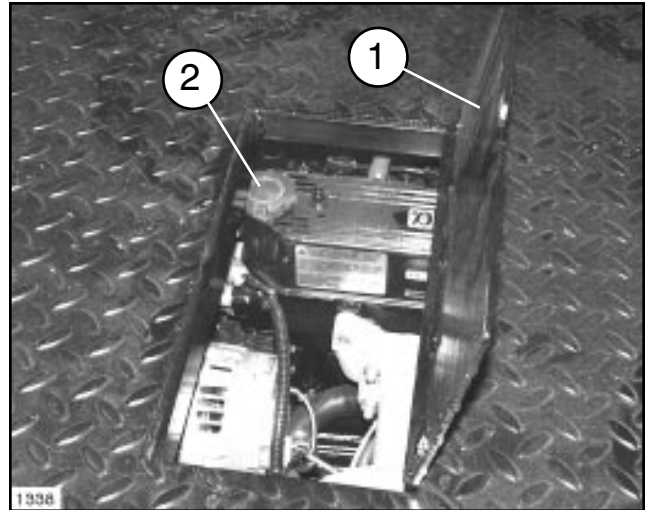

FIG. 4: Diesel Engine
2. Add oil to engine through Access Door in bed. See Figure 4.